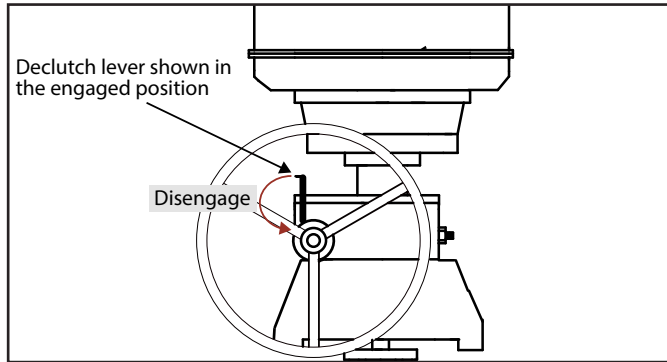

FIG. 2 FL-HT-0600-1.4
1. Confirm the declutch mechanism on manual override gear is in the engaged position. (See Section VI on page 6 for full instructions on declutch operation). Refer to drawing FL-HT-0600-1.4 (Fig. 2) for engaged/disengaged declutch positions.